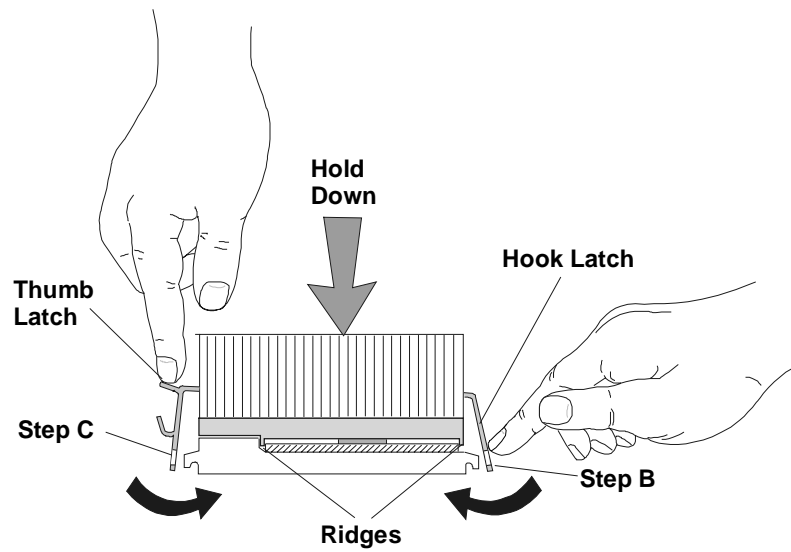

Figure 6-6. Setting the Latches
- b. While holding the heatsink steady with one hand, push down and in toward the center with your finger to hook the tab with the hook latch. See Figure 6-6.
- c. While holding the heatsink down with one hand, push down with your thumb to hook the tab with the thumb latch. See Figure 6-6.